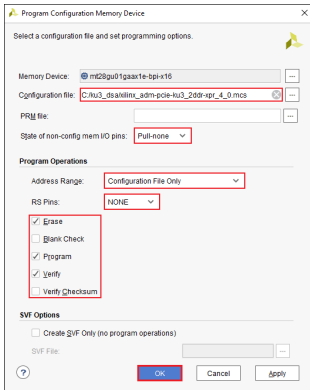

Figure 12 : The Program Configuration Memory Device window
- 11) From the **Program Configuration Memory Device** window, fill the **Configuration file** field with the path to the ADM-PCIE-KU3 DSA MCS file that was copied over from the Host Machine then make sure that the settings match those seen in **Figure 12**.